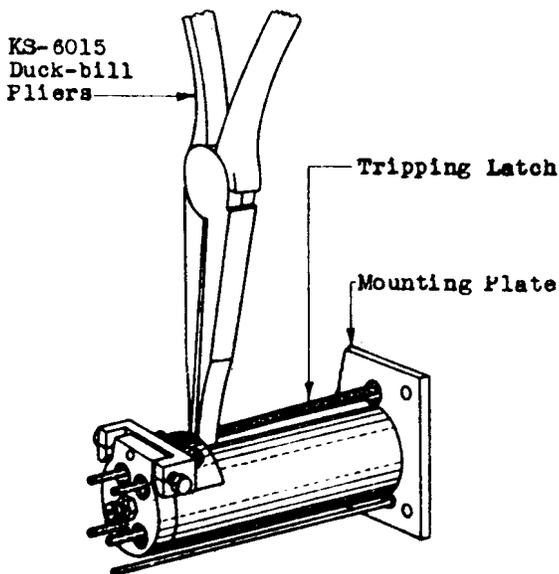

Fig. 4 - Method of Adjusting for the Tripping Latch Position on 19, 35 and 56 Type Drops
(1) If the latch touches the side of the mounting plate or the sides of the slot in the shutter or hinge plate, it may be due to the tripping latch not being centered in the slot in the pivot screw bracket, or to a bent tripping latch, or to excessive side-play of the shutter. To correct these conditions it may be necessary to remove the drop from the mounting plate as described in 3.03 (5).
(2) To center the tripping latch in the slot in the pivot screw bracket, move the armature to the right or left as required by changing the position of the pivot screws with the No. 74 wrench or the KS-6854 or R-1005 jeweler's screwdriver. Then check requirements 2.03 and 2.09.
(3) To adjust a bent tripping latch, apply the KS-7782 parallel jaw pliers or the KS-6015 duck-bill pliers to the tripping latch near the pivot screw bracket as shown in Fig. 4 or 5 and then give a slight twist to the right or left as required.